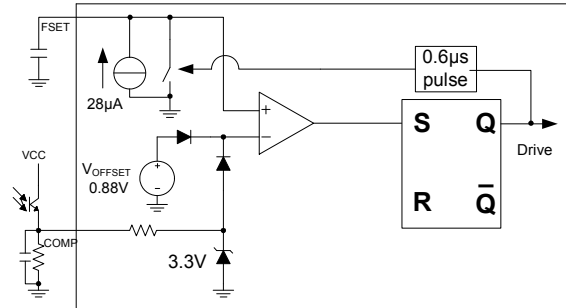

Figure 11: Schematic for Voltage-Controlled Oscillation
The capacitor C_{FSET} sets the maximum frequency as shown in equation (9). This capacitor is charged by a constant-current source shortly after the primary side switch turns on (about 0.6 μ s delay), and its voltage is compared with the COMP voltage from feedback loop (see Figure 11).